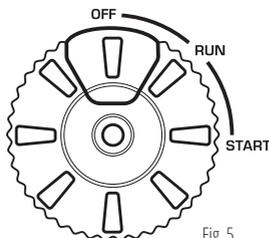

Fig. 5
3. Turn the Multifunctional engine switch to the "OFF" position (Fig. 5). M